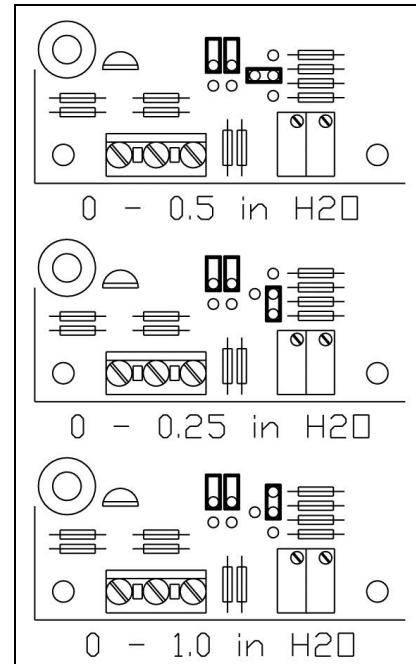

Figure 9: Pressure Transducer Jumpers
6. Verify that the jumpers on the pressure transducer are installed correctly, per Figure 9. The default pressure transducer output range is 0 to 0.5 in H₂O.